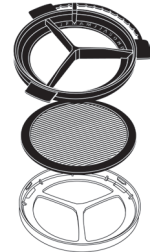

Figure 2
1. Align the red indicator on the frame to the letter that corresponds with the month that you are using the disk for the first time. This serves to remind you to change the disk every month (approx. 30 brewing cycles). (Figure 2)